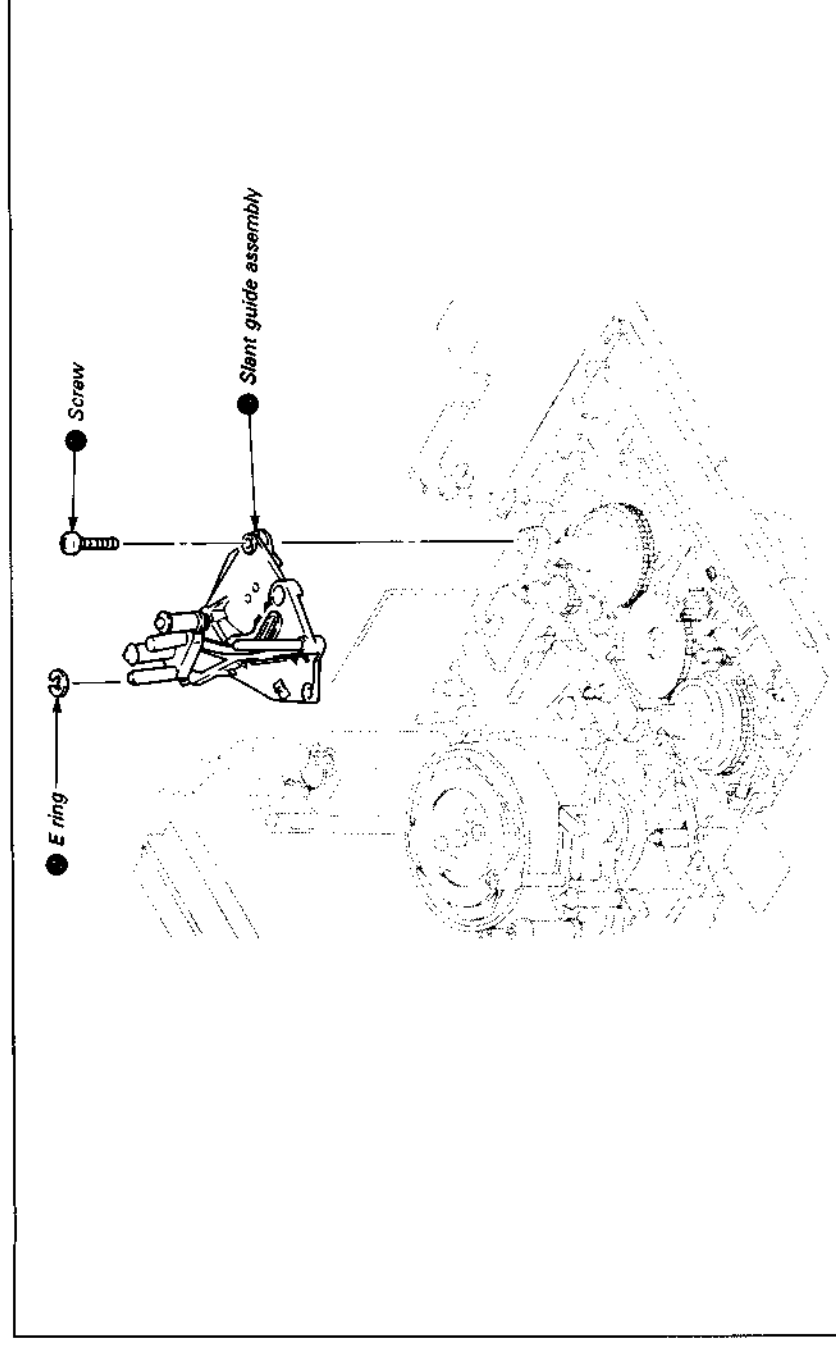

Fig. 7-26.
7-3-9. Slant Guide Assembly (See Fig. 7-26 ~ 28.)
- 3) Remove the slant guide assembly ●. (See Fig. 7-26.)
- 3) Mount the E ring ● and tighten screw ●. (See Fig. 7-26.)